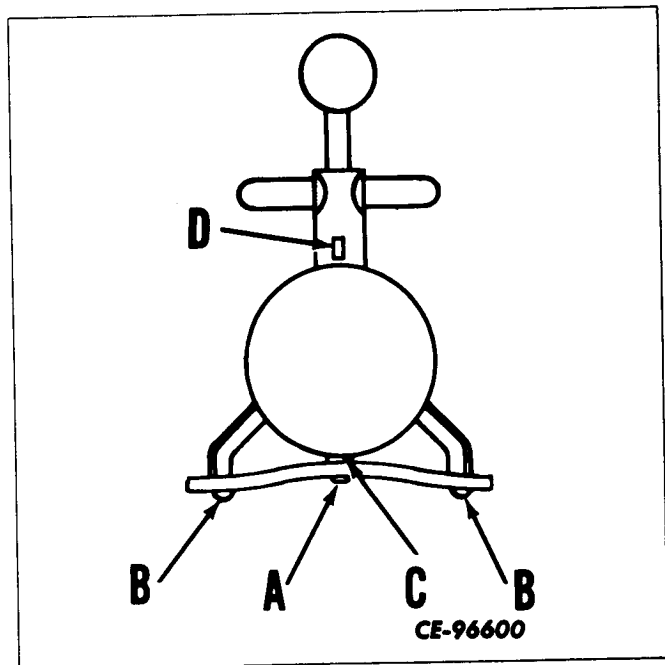

Figure 2-60
Grasp tension gauge by "T" handle and completely depress ball handle. Be certain hook (A, Fig. 2-60) extends beyond the two legs (B) to pick up belt.
Apply gauge to belt, being sure belt is positioned between nose piece (C, Fig. 2-60) and hook and that nose piece is centered on belt.
Read belt tension in pounds at index mark (D, Fig. 2-60) on gauge face. Adjust belt if necessary.